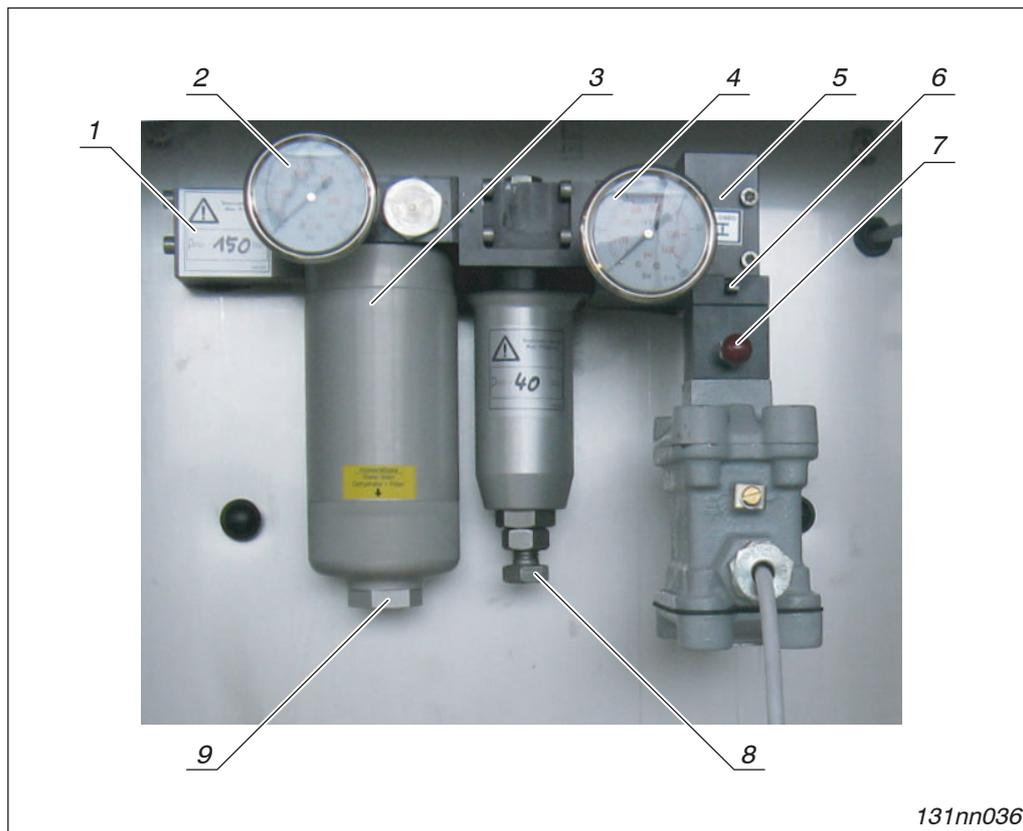

Fig. 3-10 Control cabinet of the high-pressure control system (design may vary)
If a voltage (solenoid valve) or a control pressure (pressure control valve) is applied to the control valve (→ page 3-18, fig. 3-10, item 5), the gas pressure (if present at item 2) is conducted into the pneumatic cylinder which bends the spring. The actuator moves into operating position.
To reset the actuator to operating position, push the reset button (→ page 3-18, fig. 3-10, item 7).
The control valve (→ page 3-18, fig. 3-10, item 5) is permanently connected to a power supply and a pressure is applied to it if applicable.
The output pressure manometer (→ page 3-18, fig. 3-10, item 4) must indicate at least the minimum operating pressure specified on the rating plate of the control system.
2. Supply a voltage to the control valve (→ page 3-18, fig. 3-10, item 5), or control pressure if applicable.
(→ page 3-18, fig. 3-10, item 5). To do so, operate the solenoid valve from the control room and the pressure control valve respectively.